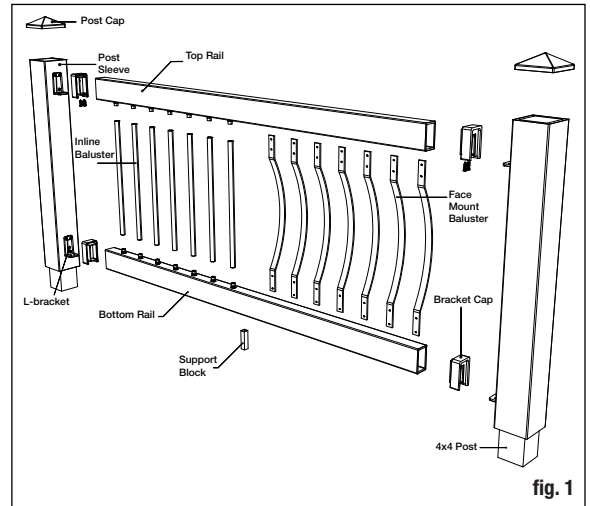
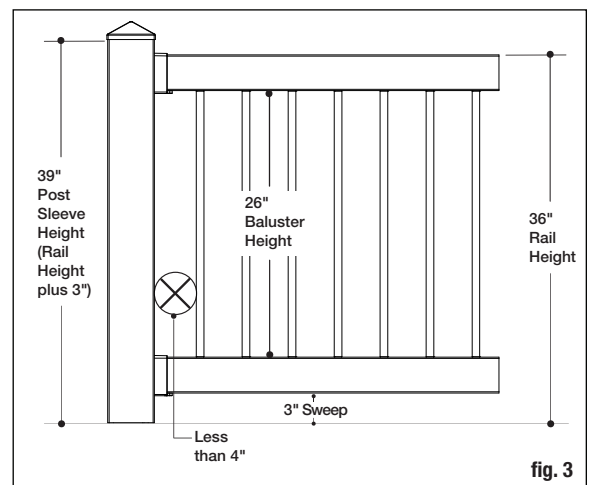
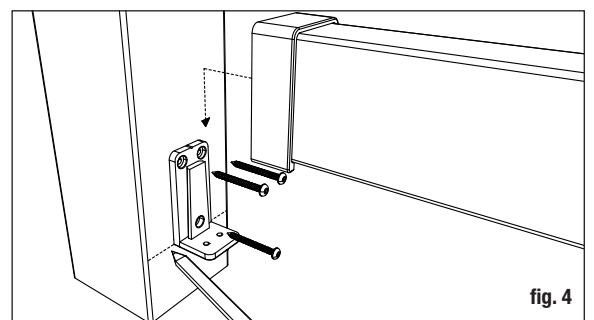

fig. 1
fig. 3
fig. 4
**Step 6** Measure the distance between installed post sleeves to determine the length of the top and bottom rails (fig. 1). The distance between the post and first baluster should be less than 4" and equal on both ends (fig. 3). Remove an additional 9/16" on both ends (1-1/8" overall) for the bracket to fit between the rail and post. Trim the top and bottom rails to length.
**Classic and Estate Balusters** The rails are pre-drilled with the proper spacing. Attach baluster connectors to the top and bottom rails (fig. 1). Do not over-tighten screws. Apply silicone caulk on each connector to prevent balusters from turning or rattling after installation is complete. The caulk should be on the outside of the round connector.
**Step 8** Position the bottom rail between posts and center. *Note: Check building code requirements for maximum spacing between deck surface and bottom of rail (sweep).* Spacing of 3" is recommended, but can be more or less if codes allow (fig. 3). Mark the bottom location of the L-bracket on both posts (refer to fig. 4). Remove rail. Mark the screw locations and pre-drill through the post sleeve only, using a 1/4" drill bit. Attach each L-bracket to the post with three 1-3/4" screws.
**Step 9** A support block is needed at the center of each rail. Cut the support block to the proper height. Attach to the bottom of the lower rail (refer to fig. 1). Find the center of the rail and pre-drill using a 1/8" drill bit. Attach the support block connector using the included screw.
**Step 10** Place bracket caps over each end of railing and install. The bottom rail L-brackets and bracket caps do not need to be screwed together (refer to fig. 4).
**Step 11** Figure 3 illustrates how a 36"-high railing might be sized. *Note: Use a fixture to ensure a consistent length (+/- 1/16").*
**Step 12** Position the top rail between the posts. Check for level end-to-end and vertically. Mark the bracket location on post sleeve and remove rail (refer to fig. 4). Mark the screw locations using the bracket as a guide, and pre-drill using a 1/4" drill bit through the post sleeve only. Attach L-bracket to the post with three 1-3/4" screws at one end. Repeat for the other end.
**Step 3** Complete stair tread installation prior to installing post sleeves. Trim 4x4 post sleeves to length. If using post caps, post sleeves should be a minimum of 1-1/2" longer than the overall railing height (refer to fig. 3). Example: For a 36" high railing, trim post sleeve to a minimum of 37-1/2". If your railing height is 36", add 1-1/2" plus 7" for riser). Post sleeve can be left longer if desired.